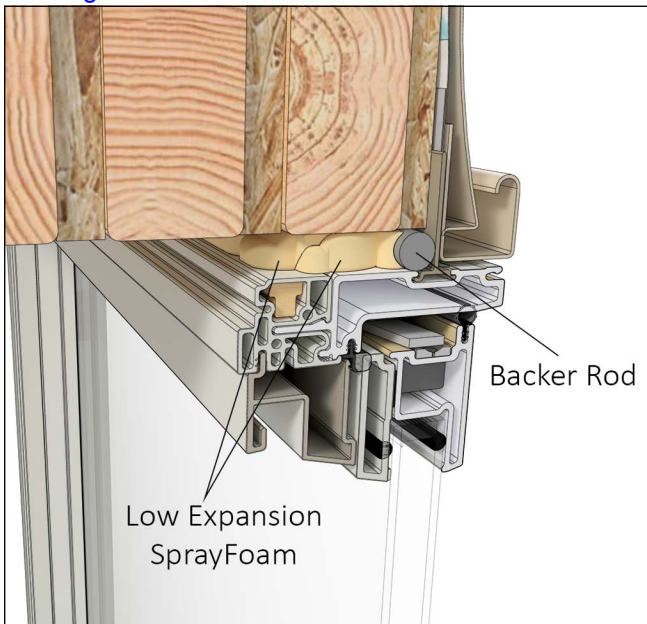

Figure 36
1. Insert backer rod around the perimeter near the exterior. Fill the opening cavity with low expansion foam. Finish by applying an interior bead of sealant as an interior moisture barrier. Use backer rod if needed. See Figure 36.